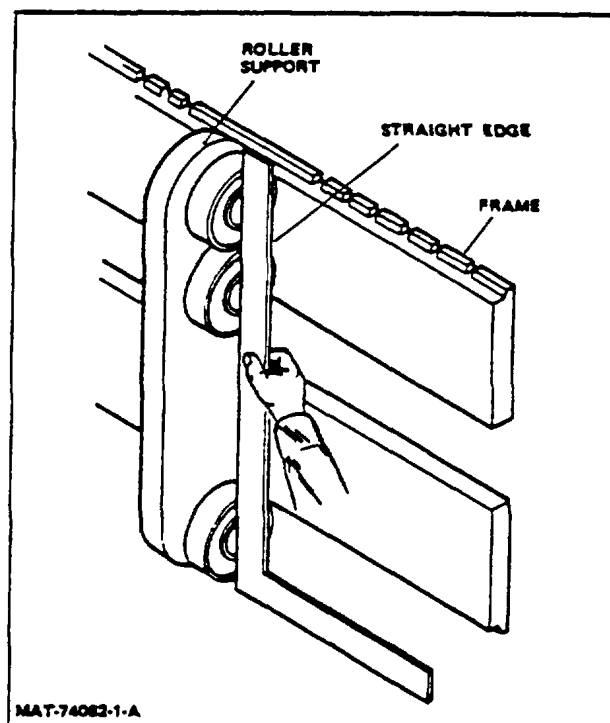

Figure 3. Checking Bearing Alignment
4. To check bearing alignment, place a straightedge against stud centerline to all bearings on both sides of carriage assembly. No visible gap should be seen between bearings and the straightedge (Fig 3).